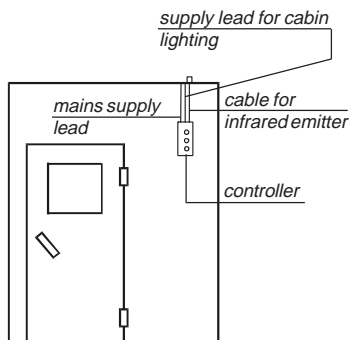

Fig. 4
2. Electrical installations (see Fig. 4)